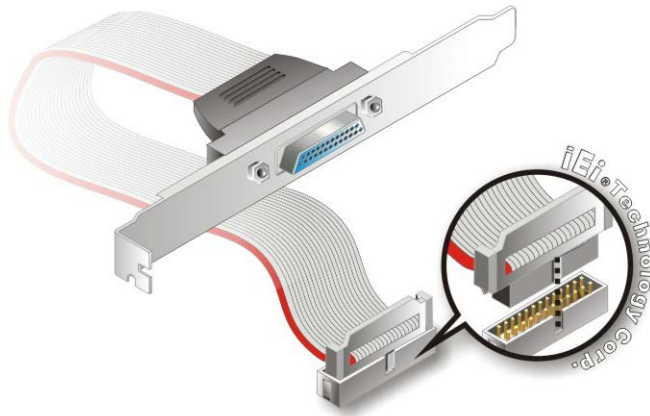

Figure 4-17: LPT Cable Connection
Step 2: Align the connectors. Correctly align pin 1 on the cable connector with pin 1 on the SPCIE-5100DX LPT box-header connector. See **Figure 4-17**.
Step 3: Insert the cable connectors Once the cable connector is properly aligned with the 26-pin box-header connector on the SPCIE-5100DX, connect the cable connector to the on-board connector. See **Figure 4-17**.